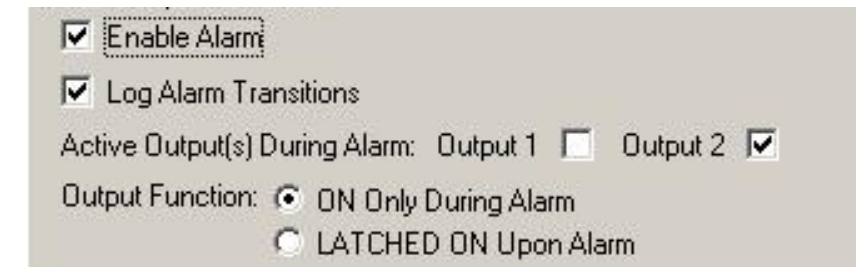

Figure 16: Alarm Output Functions
Note: A suggested Alarm program is shown in figures 16 through 23. *These are suggested parameters only.* Your engine manufacturer may have an alternate program. Please check with your distributor regarding available programs for your engine.
- **Enable Alarm Checkbox:** When you check the *Enable Alarm* box (Figure 16), the CRTdm will watch for this alarm. When the alarm function is enabled various settings become available for User specification (check boxes, text boxes for thresholds, etc).